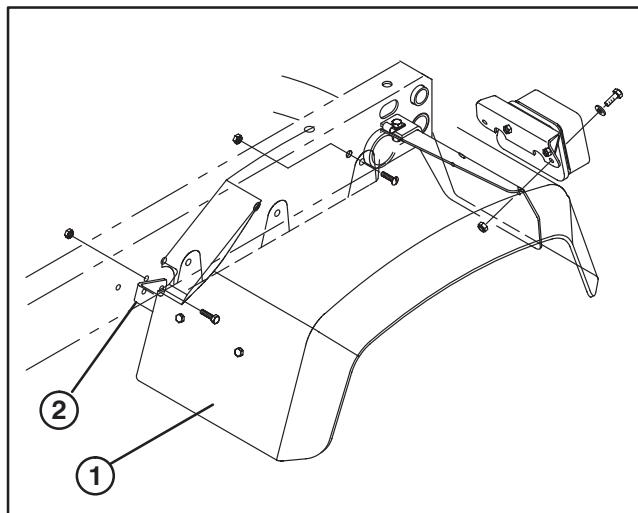

**Figure 1**
## INSTALL REAR FENDERS (Fig. 1 – 2)
3. Secure rear of each tail light plate to rear of frame brackets with a 5/16–18 x 1" lg. capscrew, .281" I.D. flatwasher and nut, as shown in figure 1.
4. On left side, remove (2) capscrews, washers and nuts securing tail light mounting bracket to tail light plate.